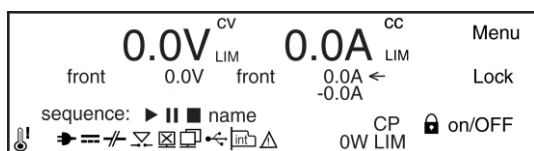

Figure 8.6: Location of icons on the front display.
- An overview of all icons that can appear on the display are given in Table 8.1, the location of each icon is shown in Figure 8.6.